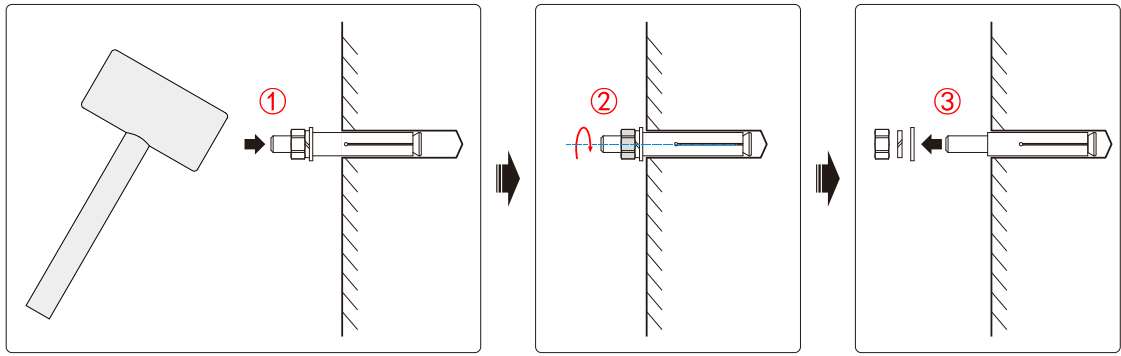

Figure3-22 Expansion bolt installation
Step 4 Install expansion bolts. Install the four M10\*80 expansion bolts into the installation holes, as shown in Figure3-22.